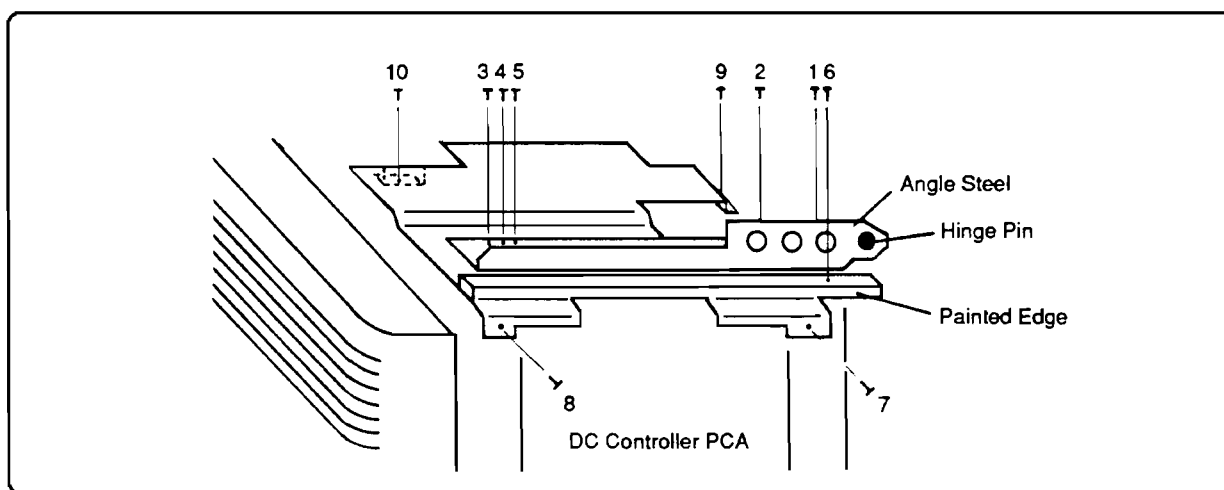

Figure 6-34. DC Controller PCA Removal
6. With the hinged Formatter I/O area closed, use the access holes toward the rear of the printer to remove the two screws along the right end of the angle steel frame (screws 1 & 2 in Figure 6-34).
7. Open the top area and remove the remaining three screws along the left (front) end of the angle steel frame (screws 3, 4 & 5 in Figure 6-34).
9. Remove the one remaining screw securing the painted edge piece along the top edge (screw 6 in Figure 6-34).
10. Remove the four screws holding the metal shield that protects the top of the DC Controller PCA (screws 7, 8, 9 & 10 in Figure 6-34). Remove the shield. This provides excellent access to the connectors along the top edge of the DC Controller PCA.